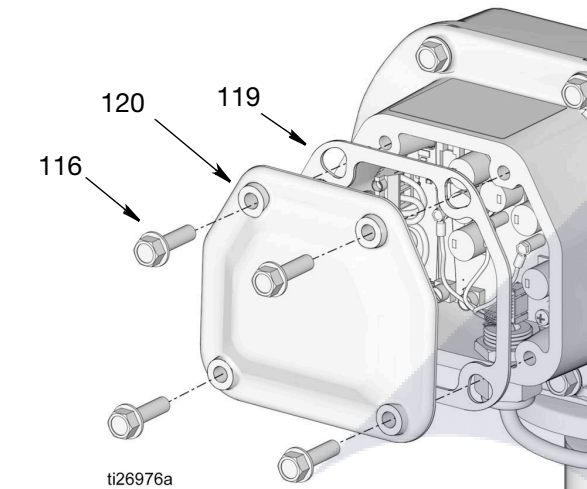

FIG. 55
5. Remove screws (116) from motor control box cover (120) and remove cover and gasket (119) (FIG. 55).